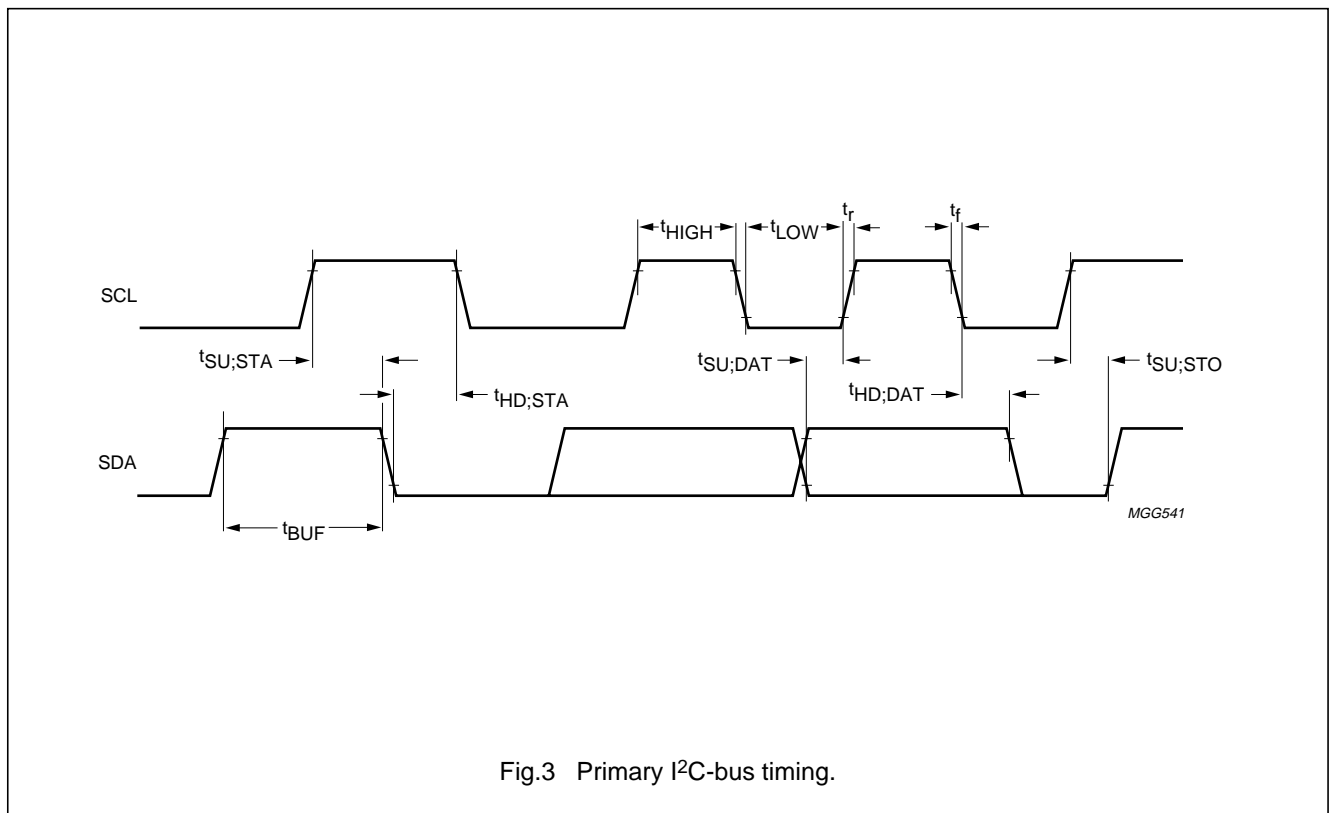

Fig.3 Primary I2C-bus timing.
**Table 4** I2C-bus Timing (see note 1 and Fig.3)